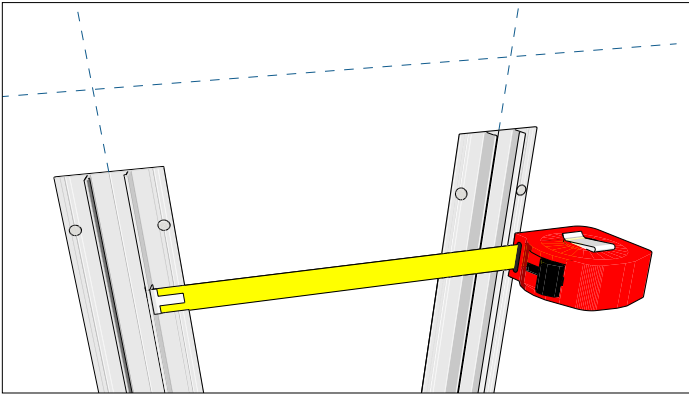

Figure 15.1
8. To cut a panel measure horizontally between the trims and cut 1/8" less. (Figure 15.1).